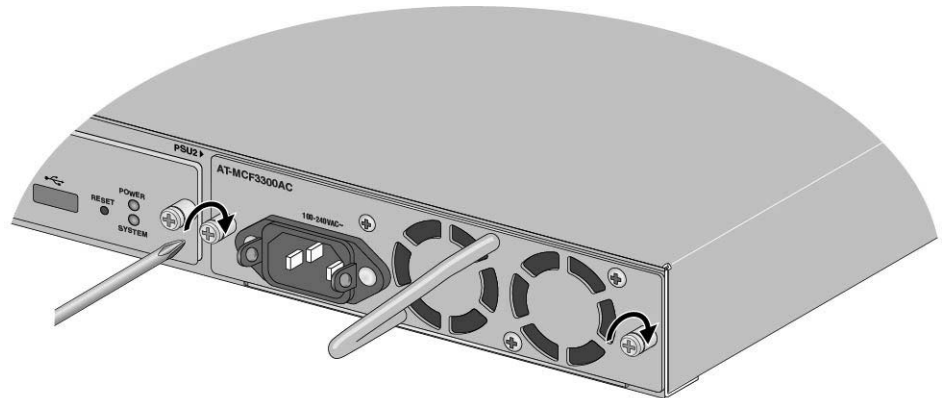

Figure 38. Securing the MCF3300AC Power Supply Module
6. Secure the power supply by tightening the two captive screws on the faceplate, with a cross-head screwdriver. Refer to Figure 38.